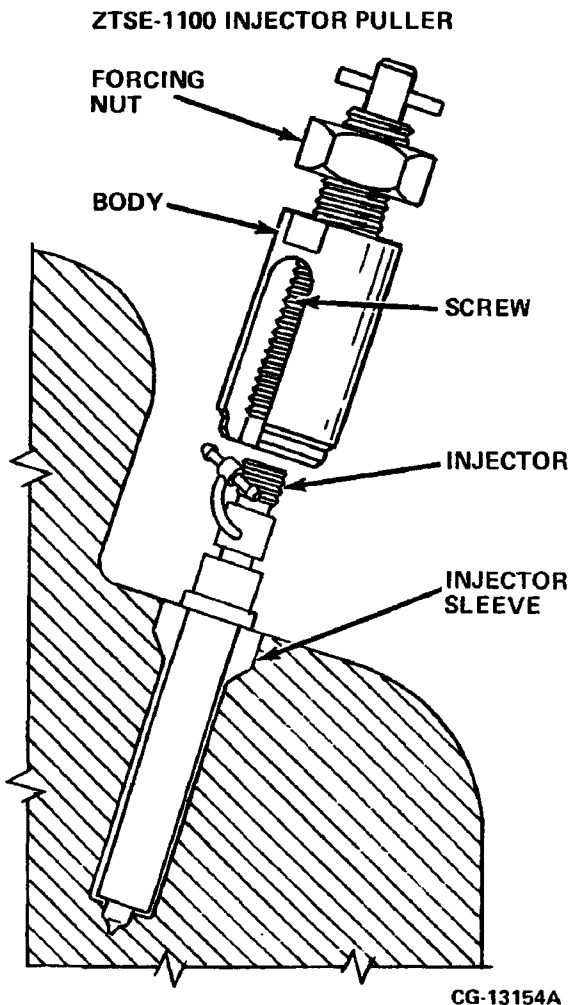

Figure 12.4. Injection Puller
- a. If necessary, use nozzle injector puller (ZTSE-1100) to pull the nozzle straight out. Refer to Figure 12.4.